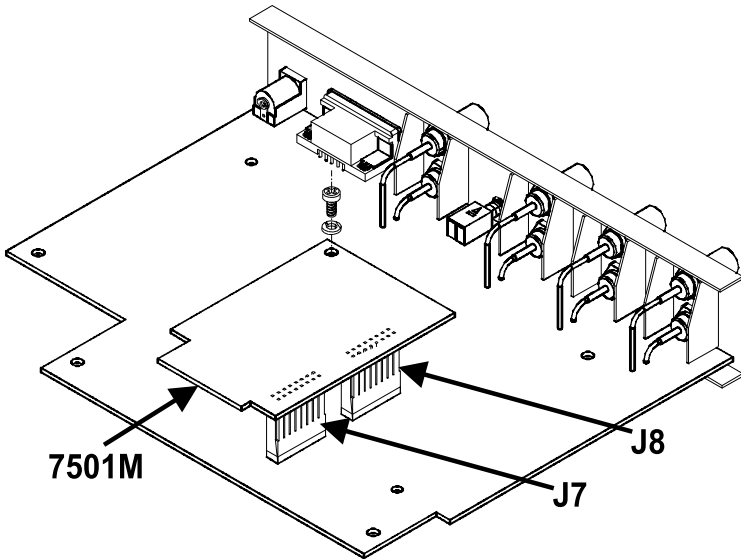

Figure 4: Upgrading the FC-7501 to FC-7501P by inserting an optional 7501M module
2. Remove jumpers on J7 and J8 (see *Figure 4*.)
3. Insert the optional **7501M** module (“PLL board”) onto the two sets of 16 pins, and secure it to the spacer by fastening the washer and screw¹, as shown in *Figure 4*.